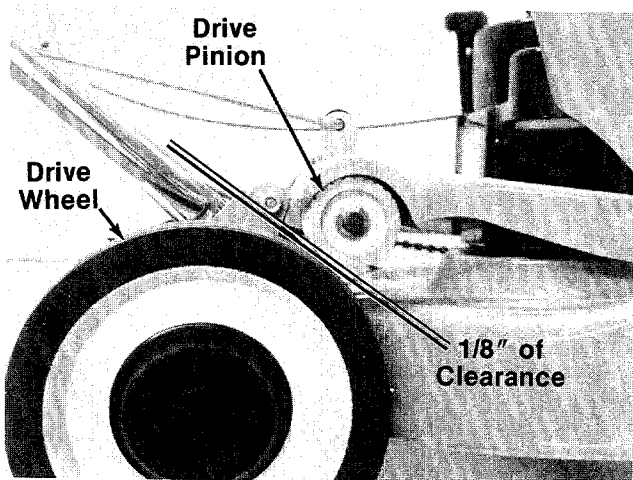

FIGURE 11.
19. Check the clutch rod adjustment as follows. The drive pinions should be approximately 1/8" from the drive wheels when the clutch is disengaged (handle is **not** pushed forward). See figure 11. When the handle is lifted, the drive pinions should press against the tires.
The drive pinion should be approximately 1/8" from the drive wheels when the clutch is disengaged (handle is **not** pushed forward). Refer to figure 11.